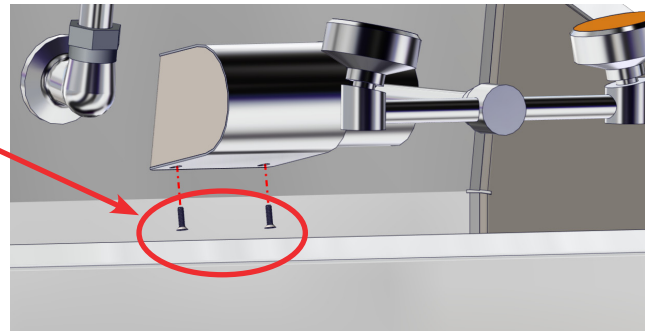

Figure 6: Attach Eye Wash Cover
- See Figure 6. Attach Eye Wash Cover (SMS0059-01 - red arrow) to the Eye Wash Housing (SMS0058) with two #6-32 x 1/2" Flat Undercut Head Stainless Steel Screws (H0006-05 - circled in red). These two screws go through the bottom holes of the cover as shown in Figure 6.